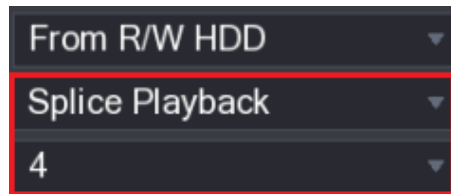

Figure 5-103
Step 2 In the **Search Type** list, select **Splice Playback**; In the Split Mode list, select **4, 9, or 16**. See Figure 5-103.